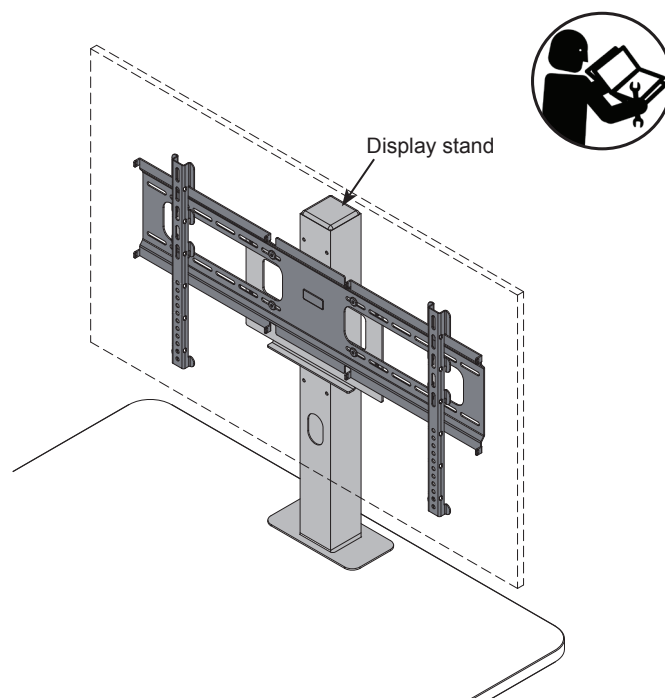

Figure 4
1. If you have the optional display stand, proceed with the assembly instructions included with stand. **Figure 4.**